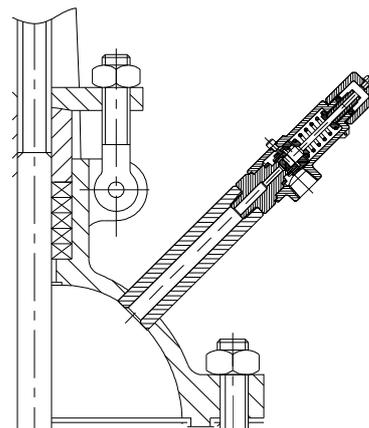

Fig. E4
- 2) connecting the body - bonnet cavity with a small safety valve that can discharge the overpressure at the external but maintaining the valve tightness in both directions (Fig. E4); in this case the output side of the safety valve shall be appropriately connected with a discharge pipe to avoid any possible hazard for the people.